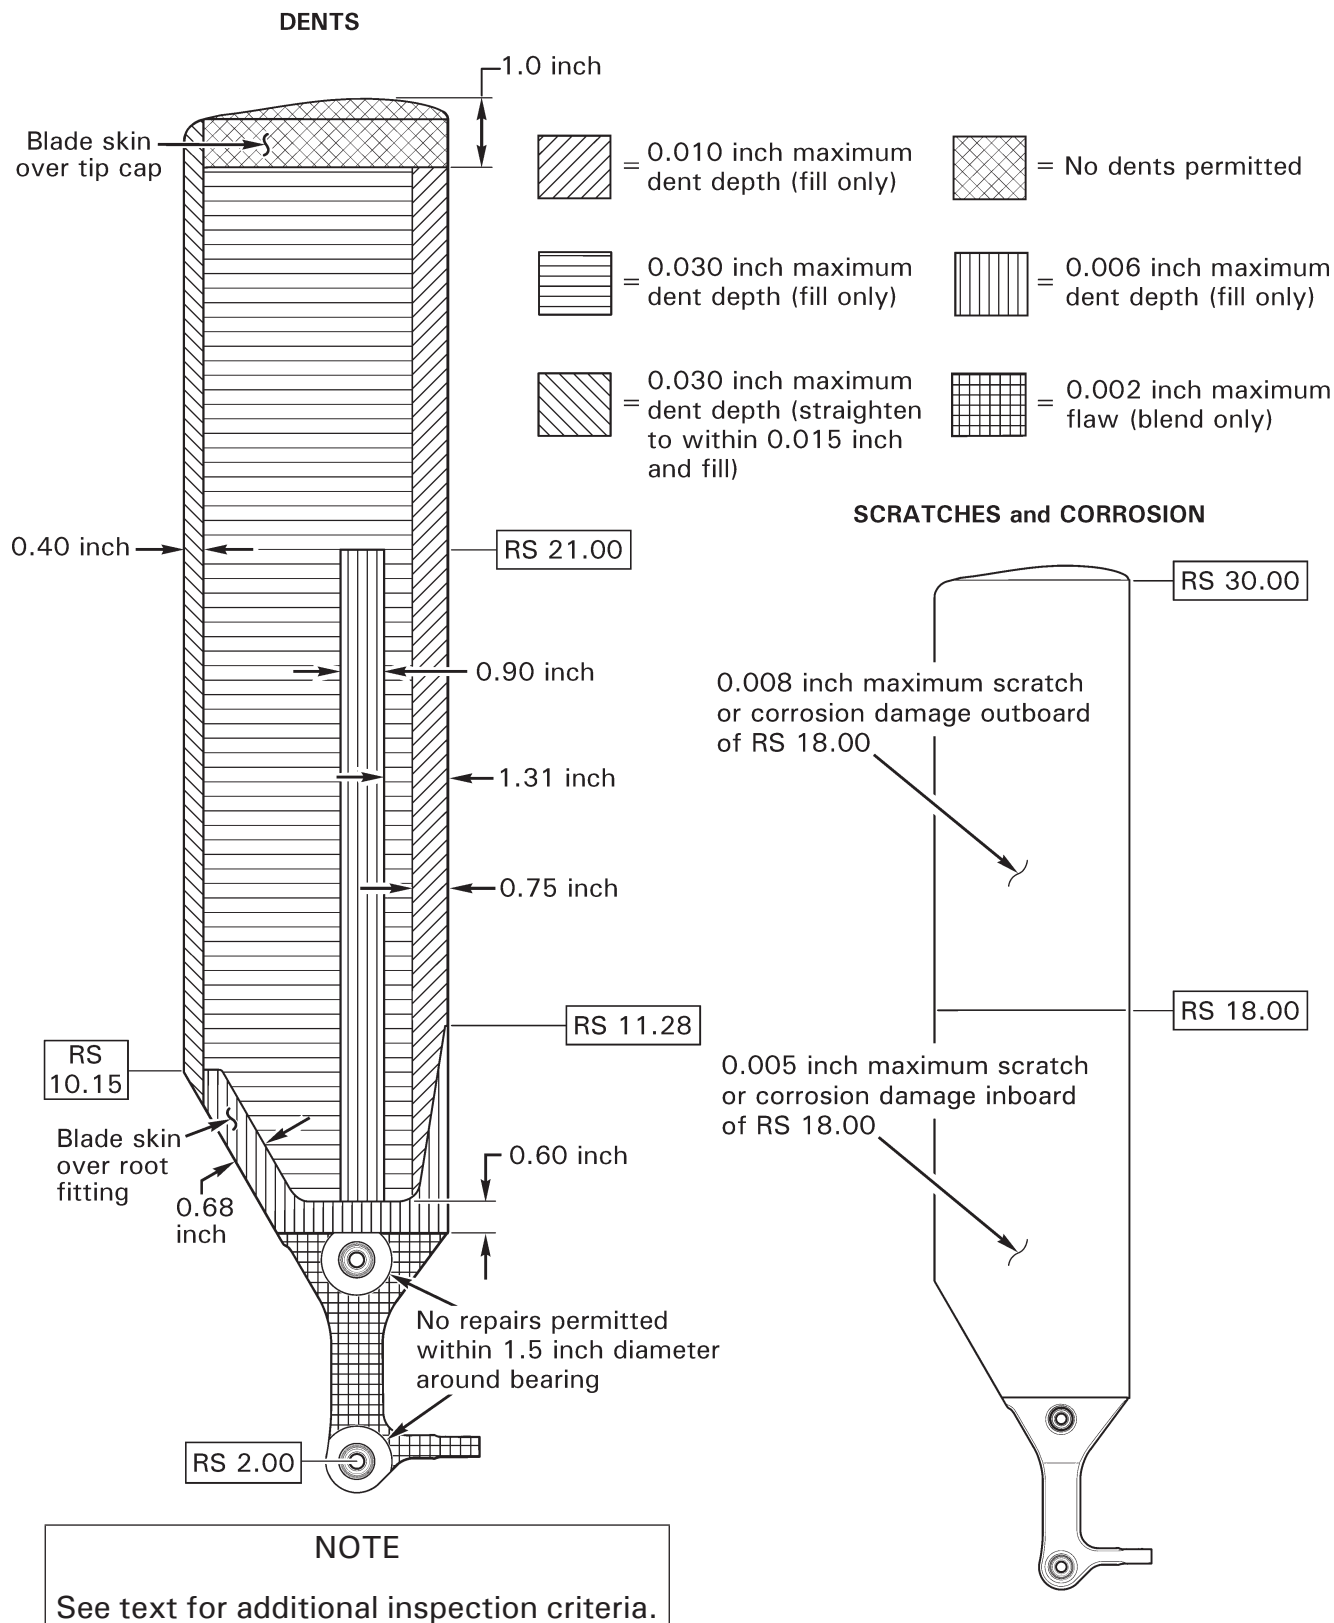

FIGURE 64-4 F029-1 BLADE INSPECTION CRITERIA
1. Refer to Figure 64-4. Measure damage in blade skins per § 62-40; verify damage does not exceed the following limits:
2. Refer to Figure 64-4. Smooth, round bottom dents with 0.060 inch minimum radius may be repaired when damage does not exceed the following limits:
2. Refer to Figure 64-4. All damage must be repaired within the following limits: